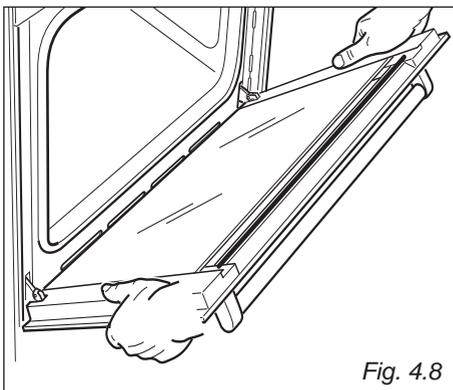

Fig. 4.8
- Hold the door as shown in fig. 4.8.